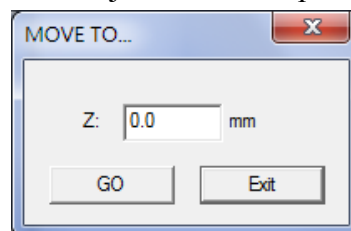

Fig. 1.7.37
1. Click “MOVE TO...” button and input the value in the dialog box like Fig.1.7.37 and click “GO,” the Z Axis will move to that specific position. The moving speed can be adjusted from “Speed” parameter.